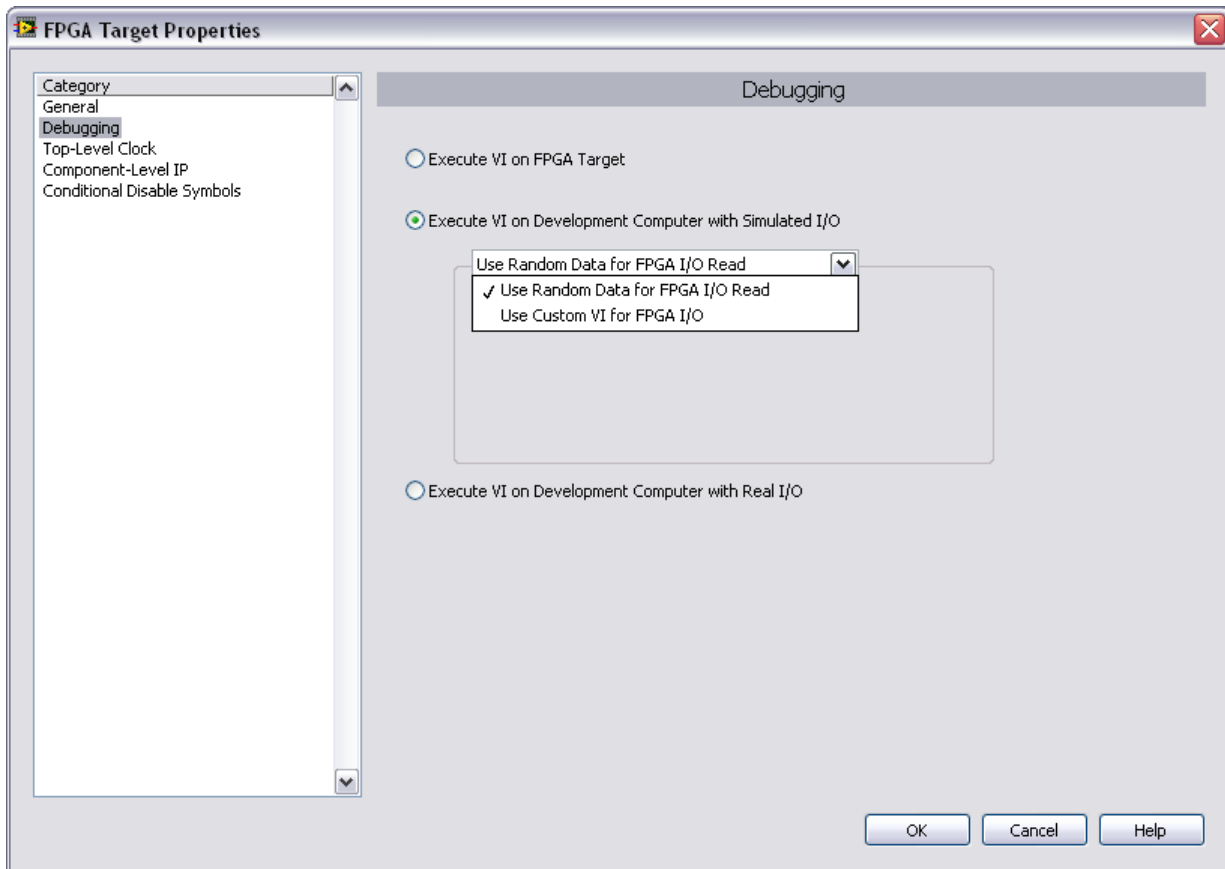

Figure 3-10. Selecting an Execution Mode
- Right-click the FPGA target in the Project Explorer window and select **Properties** from the shortcut menu to display the FPGA Target Properties dialog box. Select **Debugging** from the **Category** list to display the Debugging page, as shown in Figure 3-10.